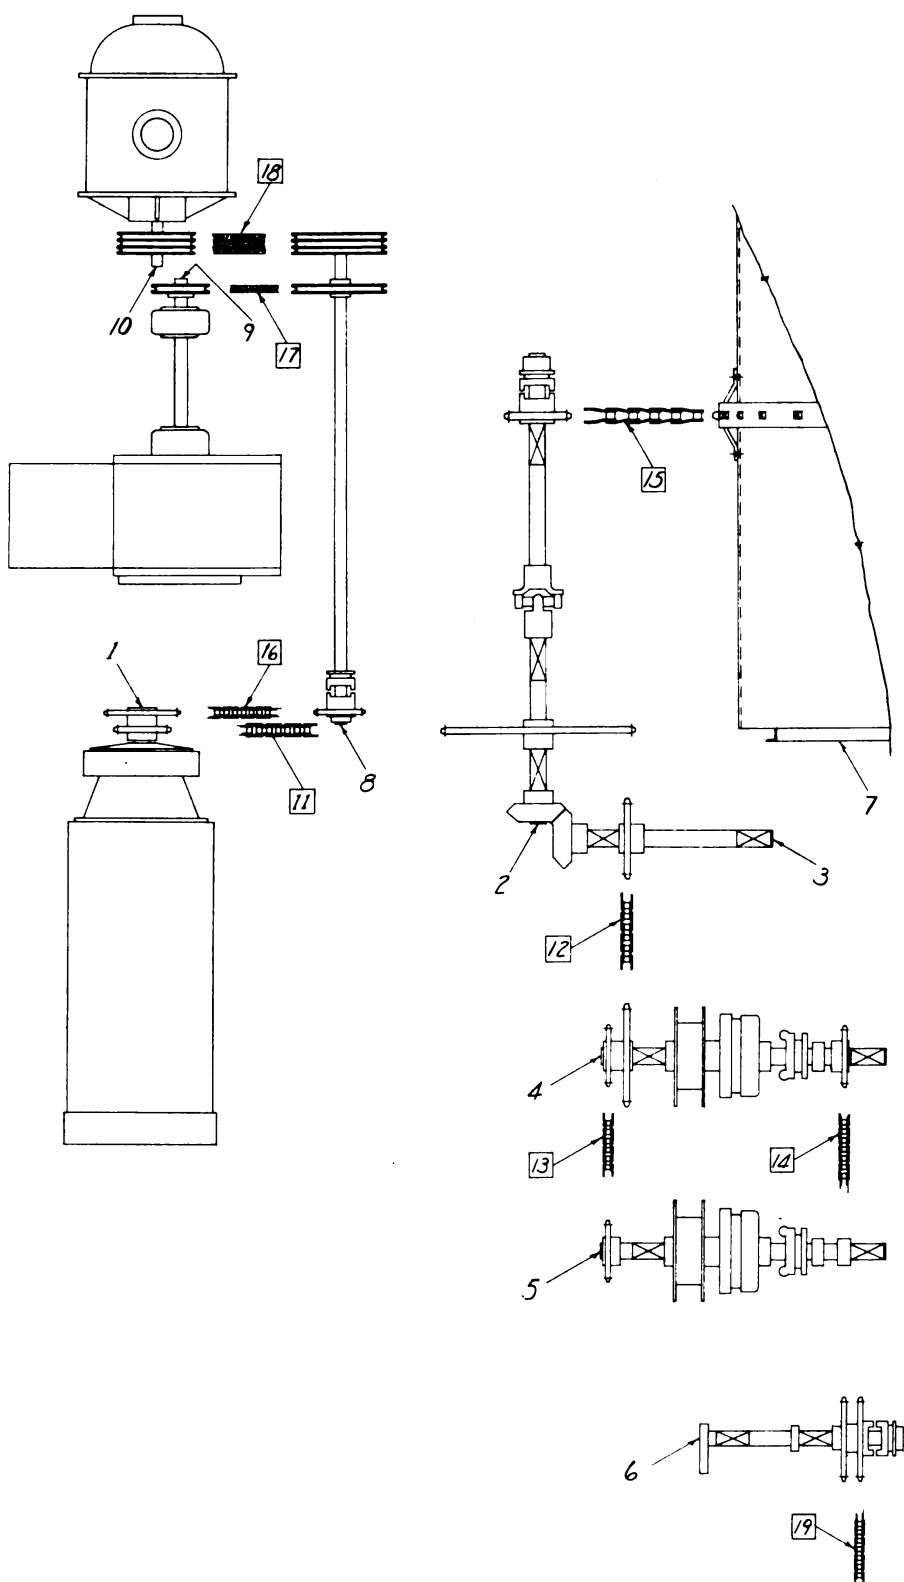

FIGURE 130
1. Main Jackshaft and Fan Blower Jackshaft Drive Chains (Nos. 11 and 16, Fig. 130)
2. Drum Drive Chain (No. 15, Fig. 130)
3. Intermediate Jackshaft To Dragline Shaft Drive Chain (No. 12, Fig. 130)
4. Dragline Shaft Drive Chain (No. 13, Fig. 130)
5. Feeder Crankshaft Drive Chain (No. 14, Fig. 130)
#### 6. Exhauster Fan V-Belt (No. 17, Fig. 130)
#### 7. Blower V Belt (No. 18, Fig. 130)
#### Elevator Counter Shaft Drive Chain (No. 19, Fig. 130)
#### MAIN JACKSHAFT (No. 2, Fig. 130)